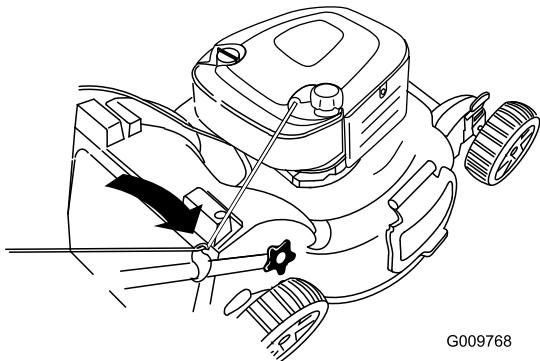

Figure 30
- Route the starter rope around the lower-rope guide (Figure 30).